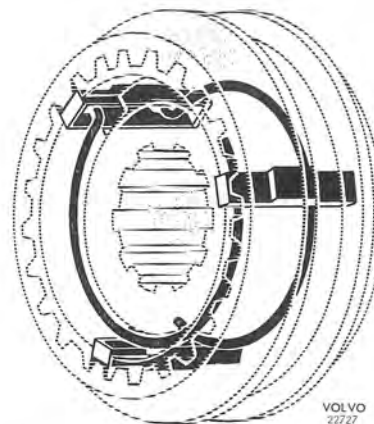
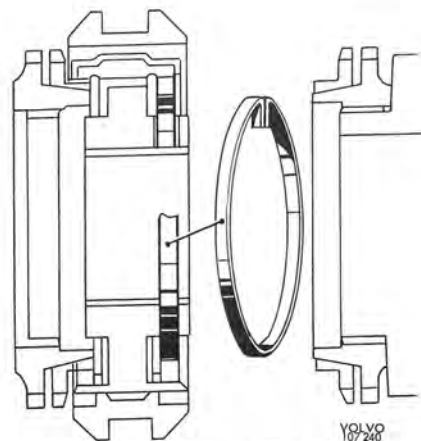

Fig. 4-26. Assembling synchronizing
Fig. 4-27. Fitting resilient ring
1. Assemble 1st-2nd and 3rd-4th speed synchronizers. Fit the snap rings correctly, see Fig. 4-26. Place the resilient ring in the hub for 3rd—4th synchronizers, see Fig. 4-27.